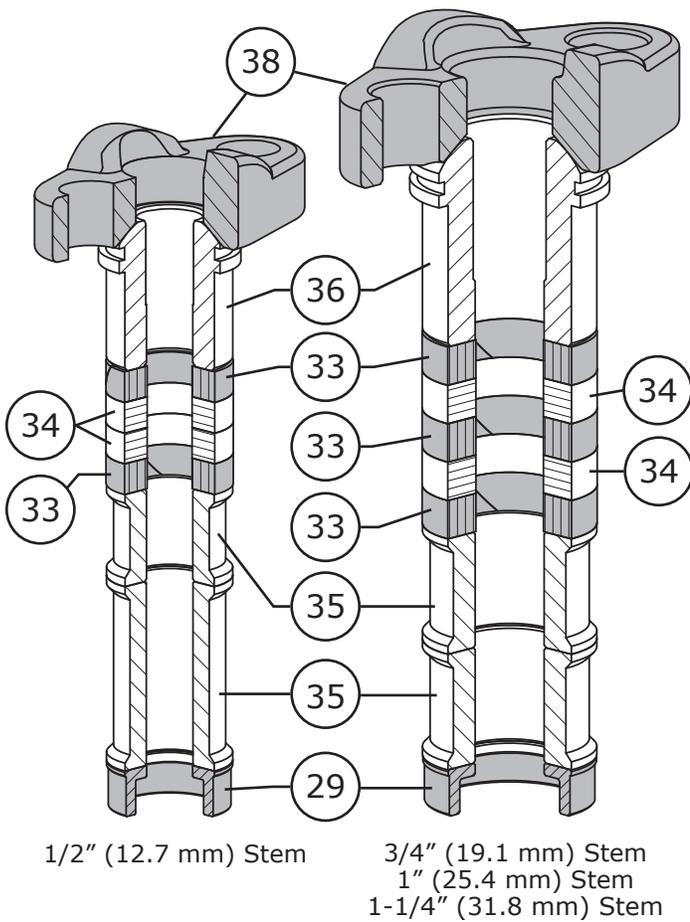

Figure 31 Graphite Packing Arrangement Diagram
- 4 Install 1 ring of graphite filament (Key 33) as shown in Figure 31 and described in Figure 28. **NOTE:** Graphite filament is a wound material that typically looks like rope and is split.
- 5 Install 1 ring of graphite ribbon (Key 34) as shown in Figure 31 and described in Figure 28. **NOTE:** Graphite ribbon is compressed into rings and not split like the graphite filament.
- 6 Install the remainder of the graphite filament (Key 33) and graphite ribbon (Key 34) one at a time (as described in Figure 28) in the proper order and orientation as shown in Figure 31.